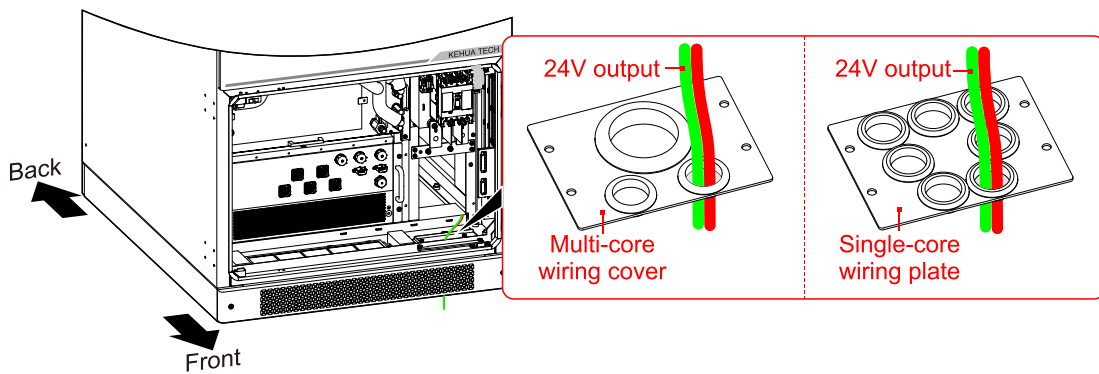

Figure4-23 Wiring hole diagram
Step 1 Lead the 24V output cables go through the bottom wiring hole, as shown in Figure4-23.